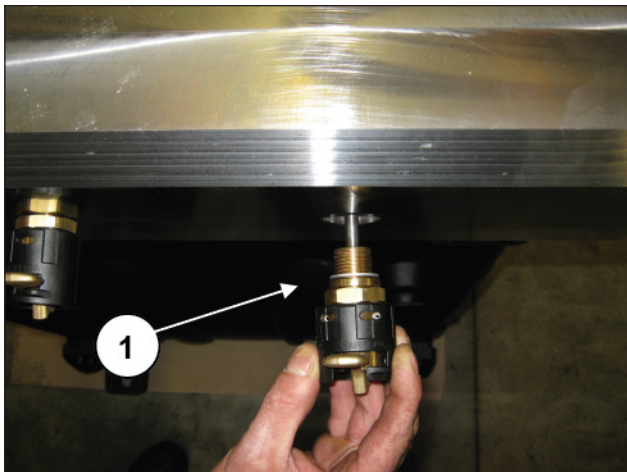
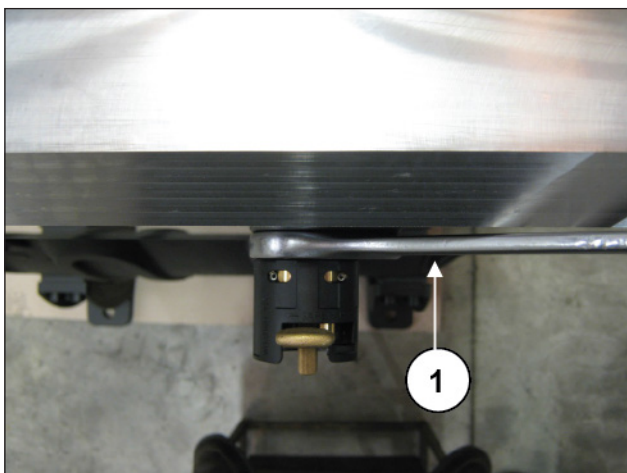

Fig. 198
Fig. 199
Apply the valve opening devices (pos. ①, Fig. 198) and screw them in using a 30 mm wrench (pos. ①, Fig. 199).